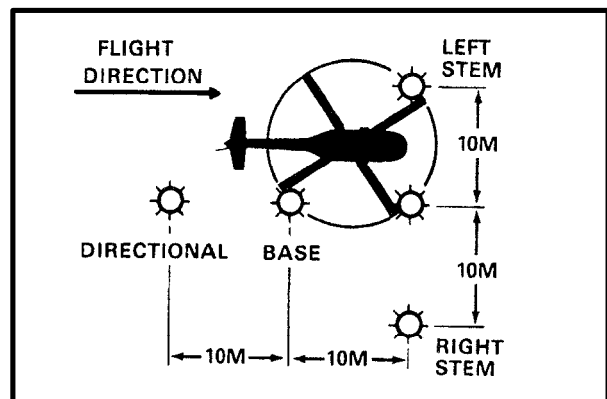

Figure 4-12. "T" Light Formation
**f. The "T" Light Formation.** The "T" light formation is set up using five lights placed according to Figure 4-12. The cargo is positioned 5 meters to the left of the base light and midway between the base light and stem lights. The lead aircraft lands to the left of the base light and just short of the stem lights.